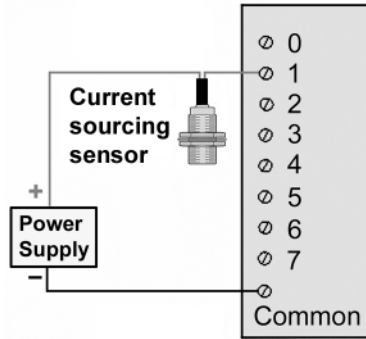

Figure 2-7 Current sourcing sensor for question 29.
29. The current sourcing sensor shown in Figure 2-7 29. **a**